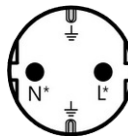

Figure 40 – CE 7 Socket (EU)
- ii. For the CE 7 Socket (EU), there should be  $\sim 230 \text{ VAC}$  across the L and N sockets at the wall outlet (**See Figure 40**).